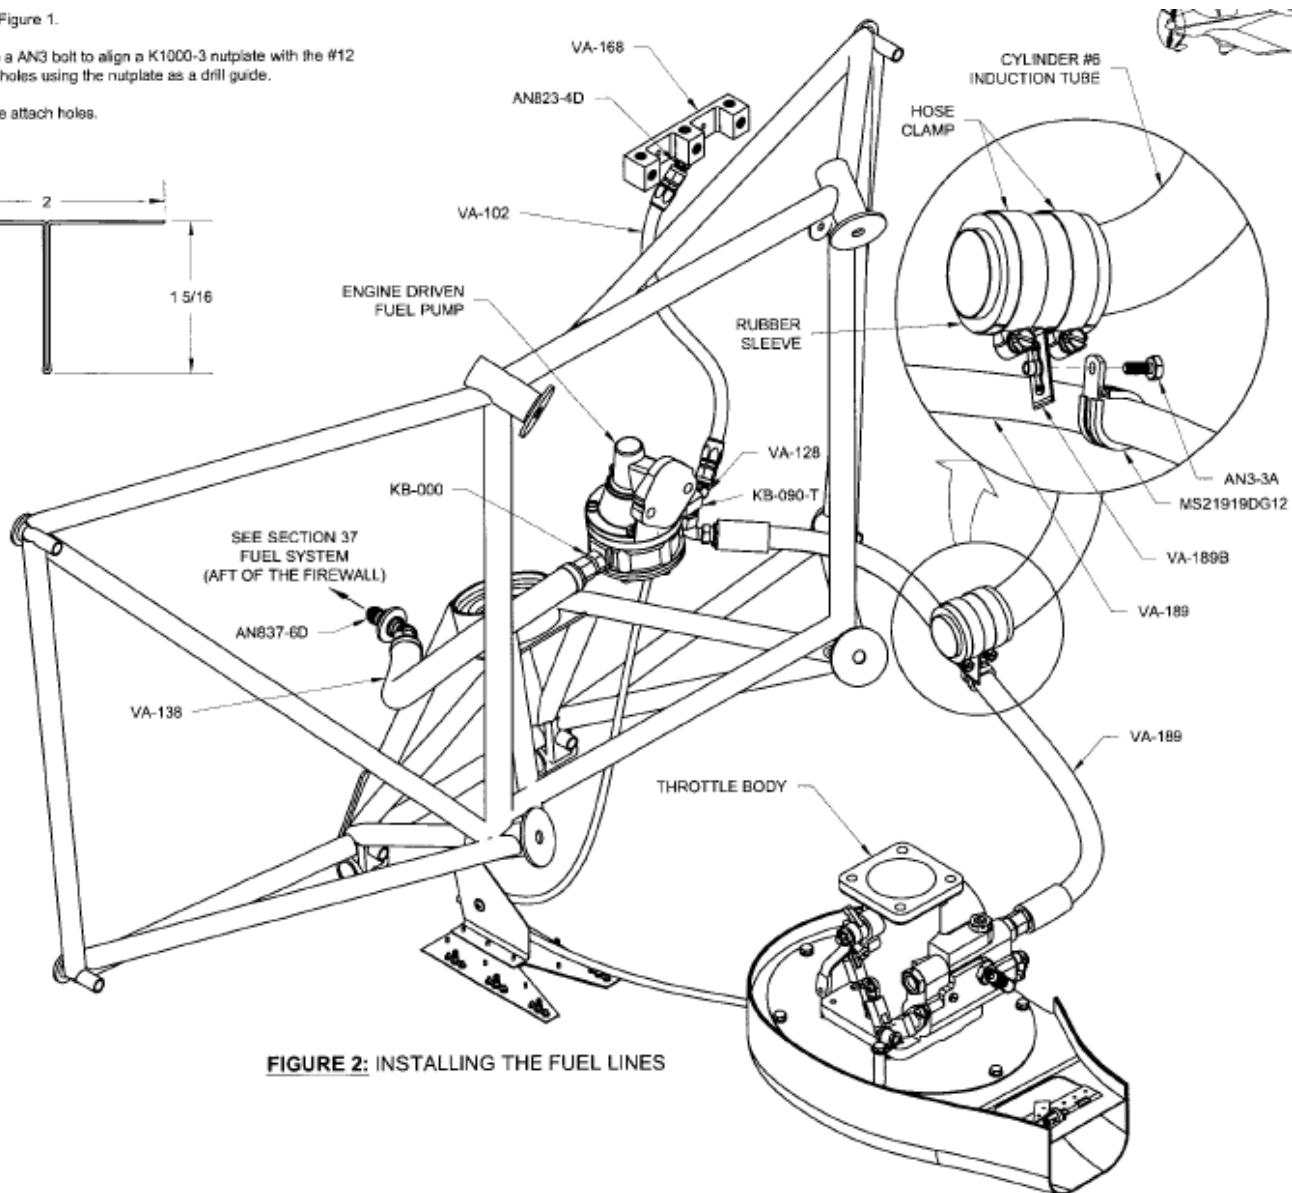

FIGURE 2: INSTALLING THE FUEL LINES
Step 6: Loosen the two hose clamps around the rubber sleeve that connects the cylinder #6 induction tube to the engine. Slip the horizontal legs of the VA-189B Hanger beneath the clamps then tighten the clamps back into their original positions. See Figure 2.
Step 7: Use a cushioned clamp and the hardware shown in the detail view in Figure 2 to attach the VA-189 Fuel Line IO-540 to the VA-189B Hanger.
Step 8: Attach the VA-102 Fuel Pressure Hose to the VA-128 Restrictor Fitting and the AN823-4D 45° elbow fitting on the bottom side of the VA-168 Sender Mount. See Figure 2.
Step 9: Attach the VA-138 Fuel Supply Hose to the KB-000 straight fitting on the engine driven fuel pump and the AN837-6D 45° elbow bulkhead fitting on the firewall bulkhead. See Figure 2.